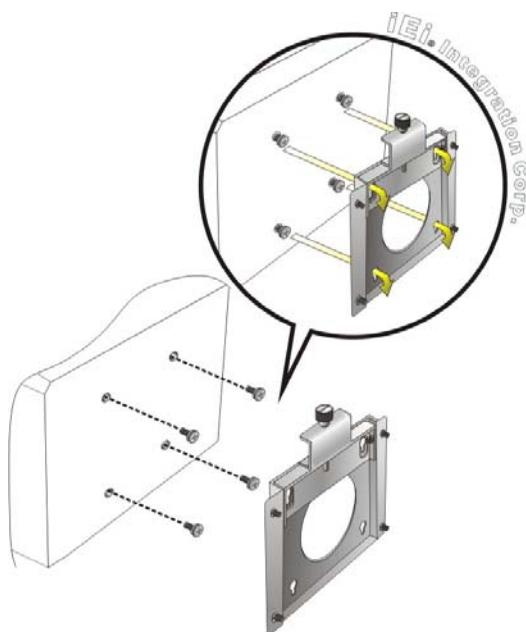

Figure 3-26: Mount the Embedded System
Step 6: Insert the four monitor mounting screws provided in the wall mounting kit into the four screw holes on the bottom panel of the system and tighten until the screw shank is secured against the bottom panel (**Figure 3-26**).
Step 8: Carefully insert the screws through the holes and gently pull the monitor downwards until the IVS-200-ULT2 rests securely in the slotted holes (**Figure 3-26**). Ensure that all four of the mounting screws fit snuggly into their respective slotted holes.